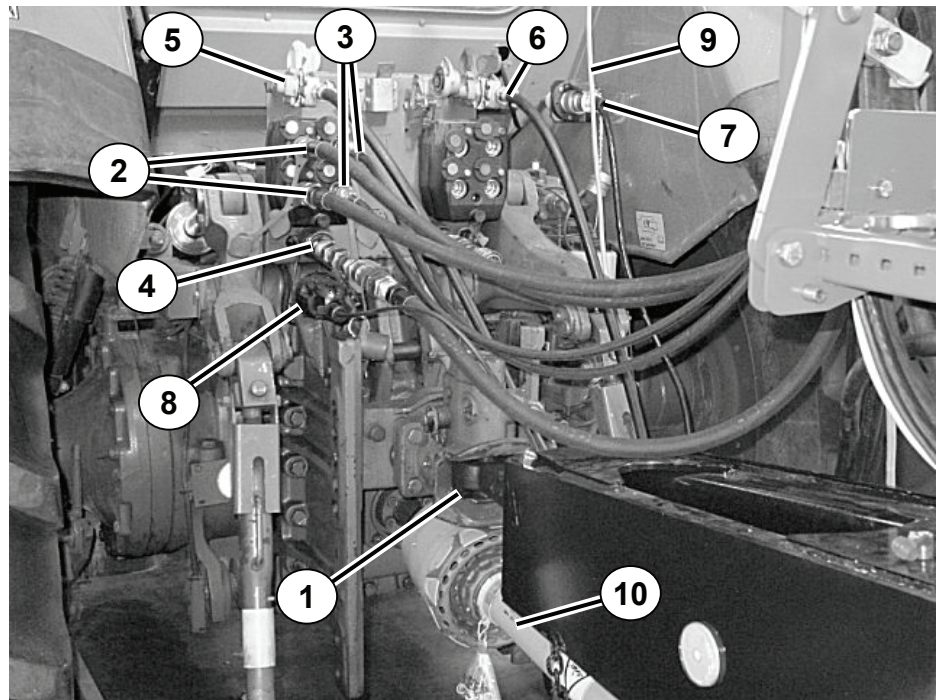

Fig. 17: Connections on the tractor
1. Hang the drawbar into the clevis hitch (Fig. 17: Pos. 1) or into the ball head coupling on the tractor. Secure the connection with the hitch pin. Secure the hitch pin positively.
2. Connect the hydraulic hoses for the control unit (Fig. 17: Pos. 2).
3. Connect the covering sheet hoses (Fig. 17: Pos. 3)
4. Connect the free return hose (Fig. 17: Pos. 4).
5. Connect the pneumatic control hose (Fig. 17: Pos. 5) to the yellow coupling (only with compressed air brake system).
6. Connect the pneumatic supply hose (Fig. 17: Pos. 6) to the red coupling (only with compressed air brake system).
7. Connect the ISO cable to the ISO bus connector socket (Fig. 17: Pos. 7) at the rear of the tractor.
8. Connect the lighting connector (Fig. 17: Pos. 8).
9. Connect the COBO connector in the tractor cab (cable Fig. 17: Pos. 9).
10. Attach the drive shaft (Fig. 17: Pos. 10).